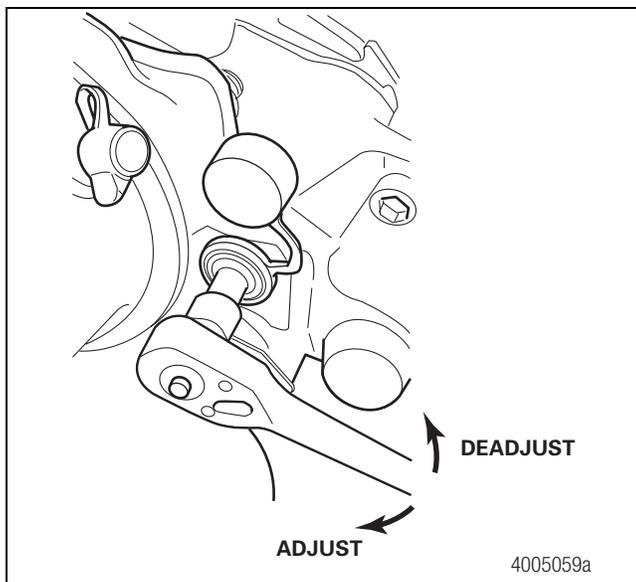
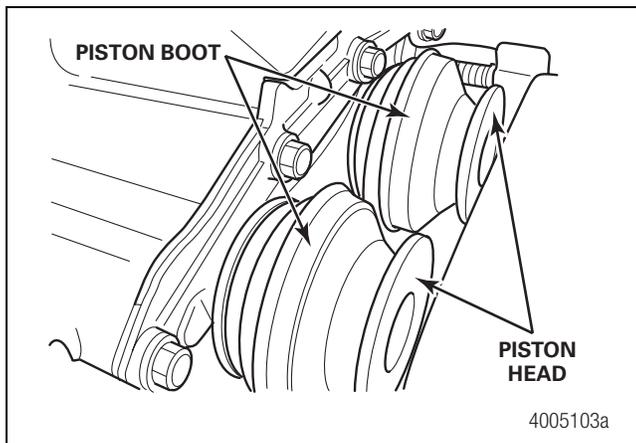

Figure 5.7
Figure 5.8
3. Use a 10 mm wrench to rotate the manual adjuster stem **CLOCKWISE** until the piston assemblies are extended approximately two-inches (50 mm). Figure 5.7 and Figure 5.8.